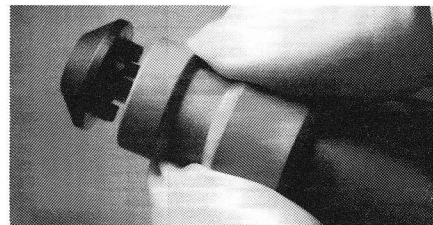

Figure 11
1. Pull back the spring-loaded lock collar to completely expose the drive fins. See Figure 11.